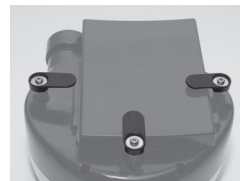

Figure 11
- With the blower filter side down, orient the lever locks as shown in Figure 11